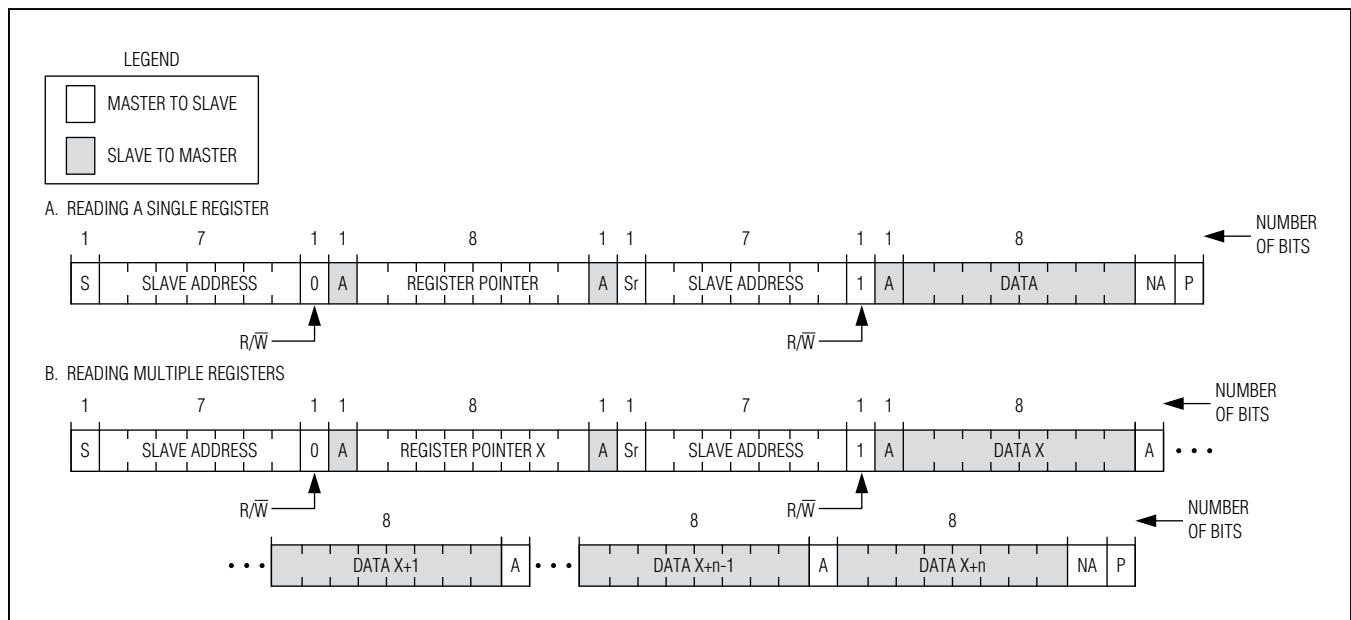

Figure 22. I²C Reading
Figure 22 shows the protocol for the I²C master device to read one byte of data to the MAX3601.
Figure 22 shows the protocol for reading from sequential registers. This protocol is similar to the “read byte” protocol except the master issues an acknowledge to signal the slave that it wants more data. When the master has all the data it requires, it issues a not-acknowledge (NA) and a STOP (P) to end the transmission. The “continuous read from sequential registers” protocol is as follows:
- 1) The master sends a START command (S).
- 3) The addressed slave asserts acknowledge (A) by pulling SDA low.